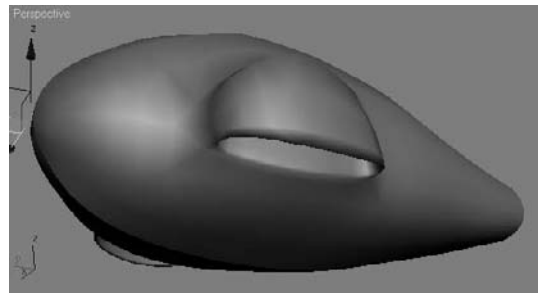

Figure 5.34
5. Enable NURMS smoothing, and your rocket body should resemble the one in Figure 5.34. Make sure to disable NURMS smoothing before you continue with the rest of the exercise.